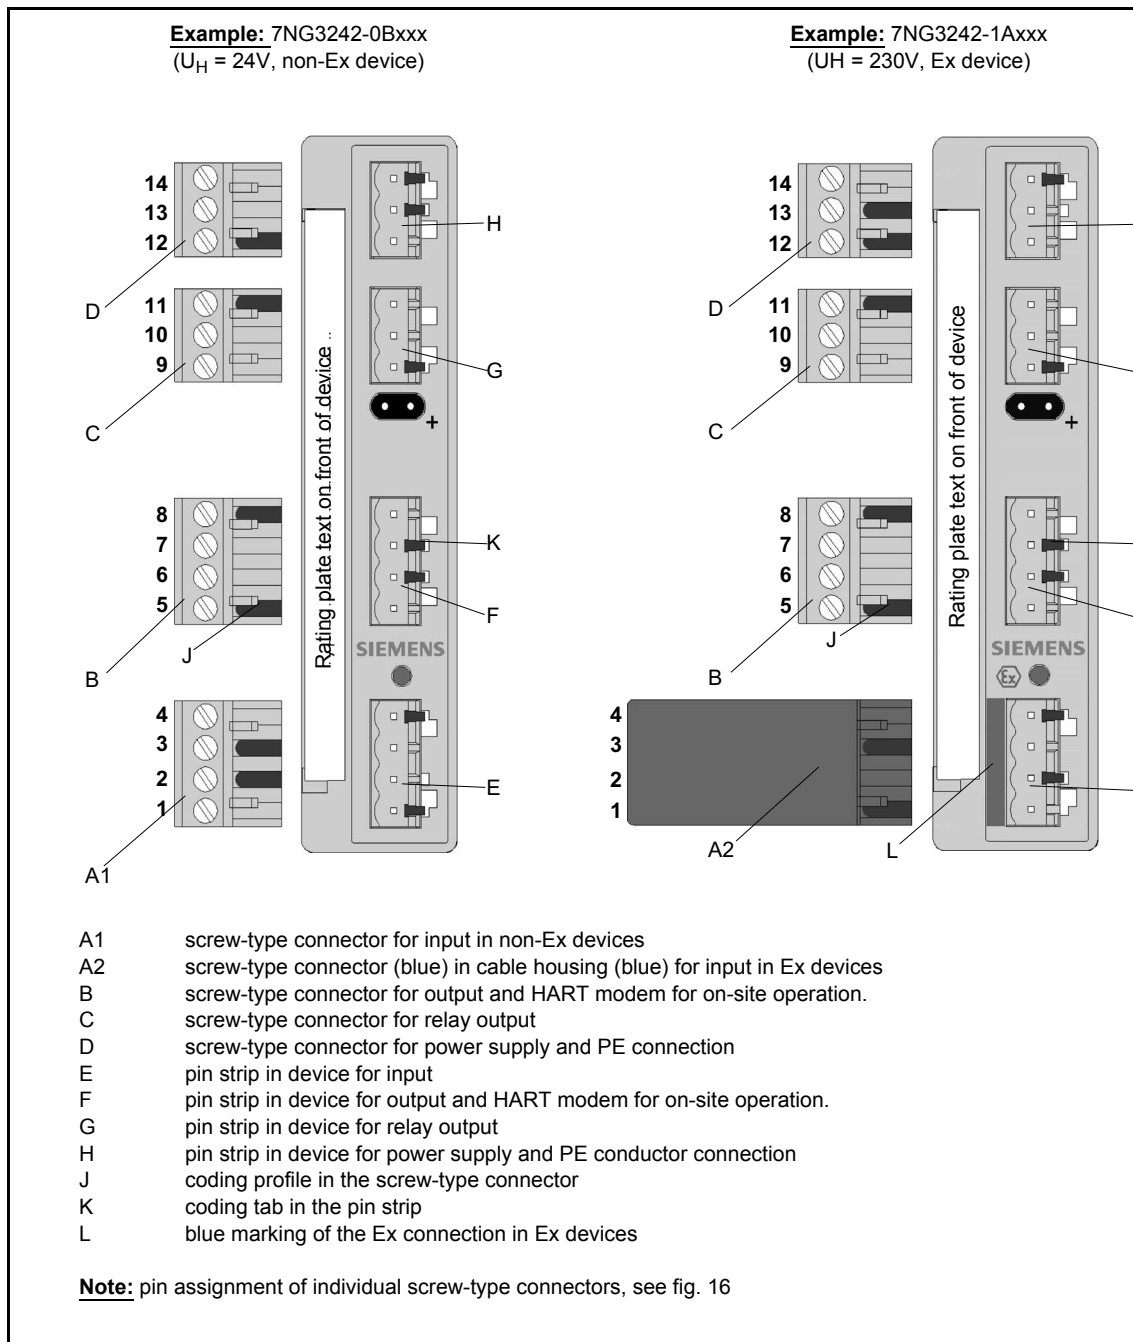

Figure 20 Coding of the screw-type connectors
- All screw-type connectors are mechanically coded at the factory to prevent confusing them (figure 20, page 128). The connector coding also ensures: